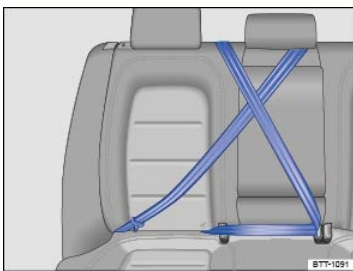

Fig. 42 Keep unused safety belts away from children in child restraints.
You must take special precautions when installing a LATCH/UAS child restraint behind the front passenger or driver seats. Always route the center safety belt and the unused safety belt for the seating position where the child restraint is being installed securely out of the child's reach. Securing the safety belts will help prevent a child from playing with an unused safety belt and becoming entangled with it ⇒ Fig. 42.
- Route the safety belt around the head restraint for the center seating position ⇒ Fig. 42.
- Buckle the safety belt ⇒ Fig. 42.
You must take special precautions when installing a child restraint with the vehicle safety belt or with LATCH/UAS lower universal anchorages behind the front passenger seat or behind the driver seat. Always route the center safety belt and the unused safety belt for the seating position where the child restraint is being installed securely out of the child's reach. Securing the safety belts will help prevent a child from playing with an unused safety belt and becoming entangled with it ⇒ *Using a child restraint on the rear seat*, ⇒ *Fig. 42*.
You must take special precautions when installing a child restraint with the vehicle safety belt or with LATCH/UAS lower universal anchorages behind the front passenger seat or behind the driver seat. Always route the center safety belt and the unused safety belt for the seating position where the child restraint is being installed securely out of the child's reach. Securing the safety belts will help prevent a child from playing with an unused safety belt and becoming entangled with it ⇒ Using a child restraint on the rear seat , ⇒ Fig. 42.